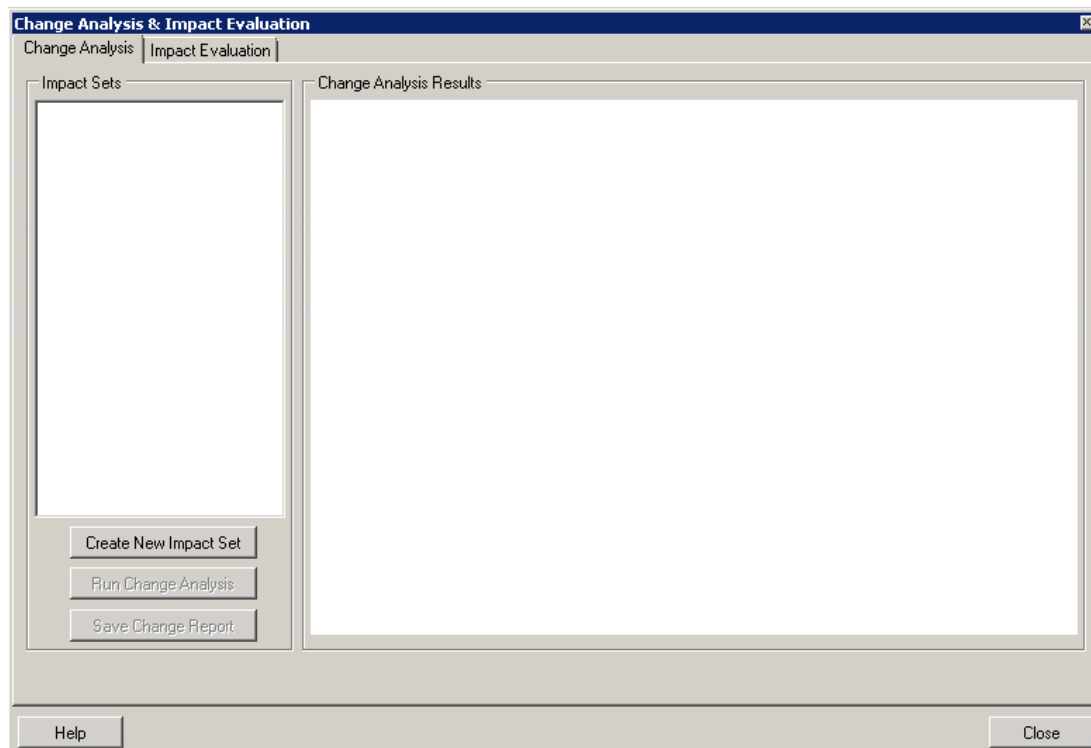

Figure 8-4 Change Analysis & Impact Evaluation Dialog Box
1. From the menu bar select *Results, Change Analysis*. The *Change Analysis & Impact Evaluation* dialog box will open (Figure 8-4).